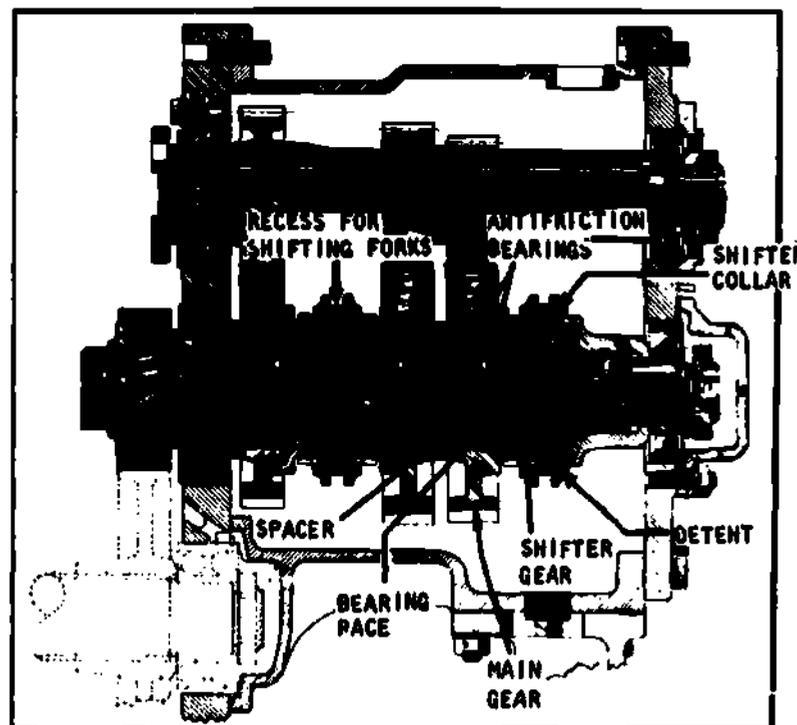

Fig 3-14. Cutaway view of a constant-mesh transmission.
- (1) **Diagnosis.** Some of the problems reported as transmission troubles are actually caused by some other part or component. A well-trained and experienced mechanic is an asset to the maintenance facility, especially for diagnosing transmission troubles. He knows that noises can be transmitted to a transmission from unbalanced drive shafts, worn universal joints, loose drive shaft center bearings, worn or pitted ring and pinion gears, and clutch or engines. But not all units have experienced mechanics, and therefore they must diagnose the problem and repair the component with personnel available. When checking for transmission noise, raise the vehicle off the deck and operate it in all speed ranges, including coasting (neutral). Determine the origin of the noise before condemning the transmission. If the noise does originate in the transmission, try to determine what is causing it. A growl or hum, when the gears are in the neutral position with the engine running, that stops when the clutch is disengaged, indicates insufficient lubricant, worn or broken pinion gear, worn reverse idler or countershaft bearings, worn pilot or pinion shaft bearings, or a bent countershaft. Noises heard in neutral may also appear when the transmission is operated in other gears. If a noise appears only after the transmission is operated in gear, the cause is worn or damaged main shaft bearings, worn or broken sliding gears, or excessive main shaft end play. Noises are not the only problems with a transmission. It will slip out of gear, be hard to shift, or develop leaks. Slipping out of gear is caused by worn detents, gears, bearings, and/or improperly adjusted linkage, including the forks. Excessive end play of the reverse idler and countershaft will allow the gears to work endways and cause them to slip out of mesh. Hard shifting is caused by the clutch not releasing, distorted or burred main shaft splines, or improperly adjusted linkage. Oil will leak by worn seals, damaged or loose gaskets, loose bolts or plugs. A clogged vent will also cause pressure to force the oil out.
b. **Constant mesh (fig 3-14).** The constant-mesh transmission, its problems, and repair procedures are very similar to those for the sliding-spur-gear transmission. However, its internal parts function somewhat differently. The main shaft gears in the constant-mesh transmission do not slide in or out of mesh with the countershaft gears except for reverse. The main gears are helical cut and are free to rotate on the main shaft. Reverse gear is a straight spur gear. The main gears are locked to the main shaft by shifter gear collars controlled by a shifting fork and linkage. All of the gears are turning, and by moving the small shifter gear collar, one of the gears is locked to the shaft and transmits the power. Notice in figure 3-14 that detents hold the shifter gear collar in mesh with the main gear. The main gears may be pressed on the main shaft or retained in position by snap rings. They are mounted on antifriction bearings so they can rotate. Removal, disassembly, assembly, and adjustment procedures vary and the mechanic should follow the procedures outlined in the TM.